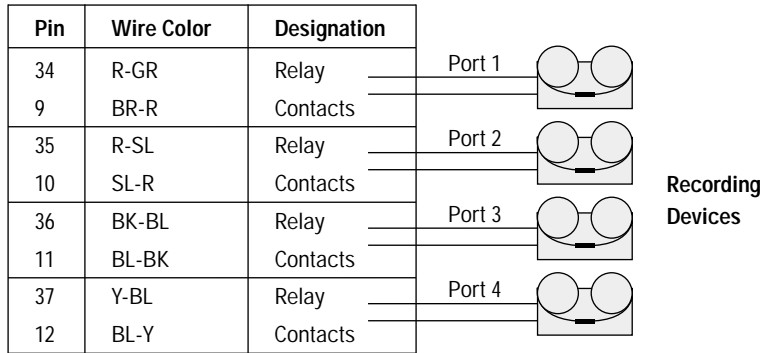

Fig.16 – Typical recording system contact control
7. If recorder is operated by contact closure, connect to appropriate MRI-320 ports. See Fig. 16.